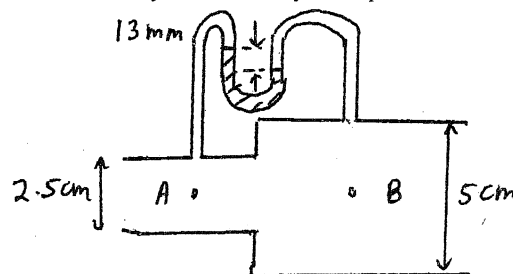

FIGURE 5
5) A horizontal, cylindrical pipe has a sudden change in diameter as shown in Figure 5. The diameter changes from 2.5 cm at A to 5 cm at B. The discharge in the pipe is 1 l/s from A to B. A U-tube mercury manometer is connected to A and B. The difference in levels in the manometer is 13 mm, with the higher level in the tube connected to A as shown. The density of water is 1000 kg/m^3 and the density of mercury is $13,600 \text{ kg/m}^3$.